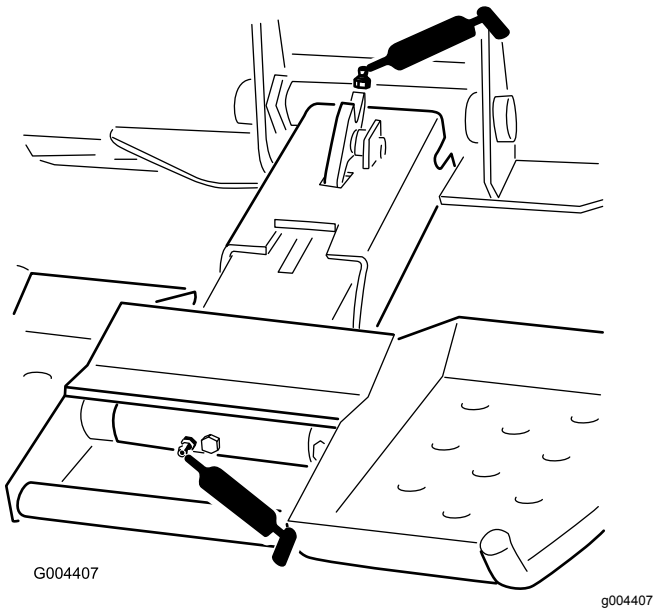

Figure 12
4. Connect a grease gun to each fitting (Figure 12).